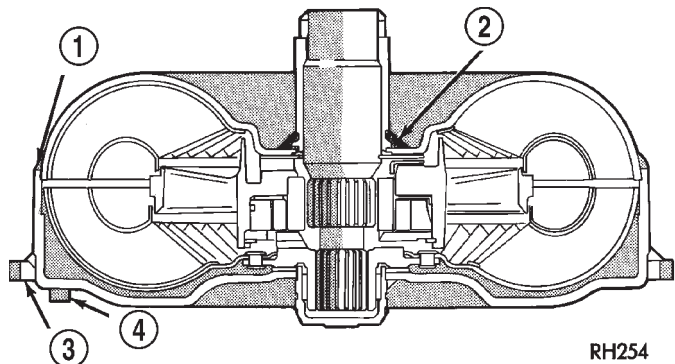

Fig. 34 Converter Leak Points—Typical
- Torque converter weld leaks at the outside diameter weld (Fig. 34).
- Torque converter hub weld (Fig. 34).